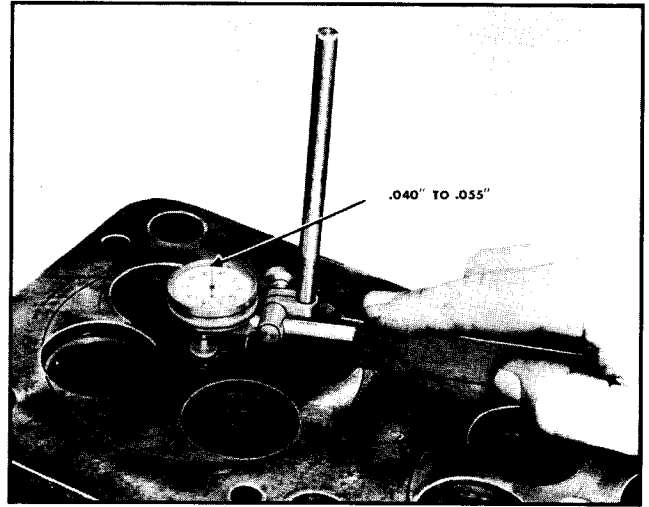

Fig. 3-5. Measuring injector tip protrusion
b. Measure tip protrusion with dial indicator as shown in Fig. 3-5. Injector cup tips should protrude .040 to .055 beyond cylinder head milled